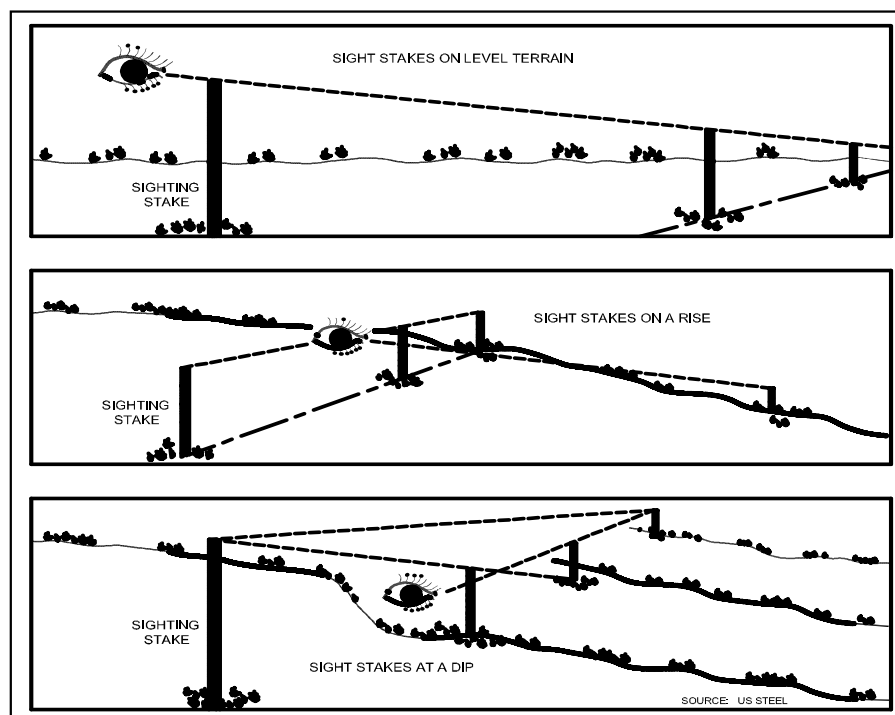

Figure 1 Fence Line Layout Using Sight Stakes
- using single flags (or sight stakes if needed), place often enough so you can stand at one and see the next - at dips or rises, extra flags or sight stakes will be required to ensure a straight fence line as shown in Figure 1, below